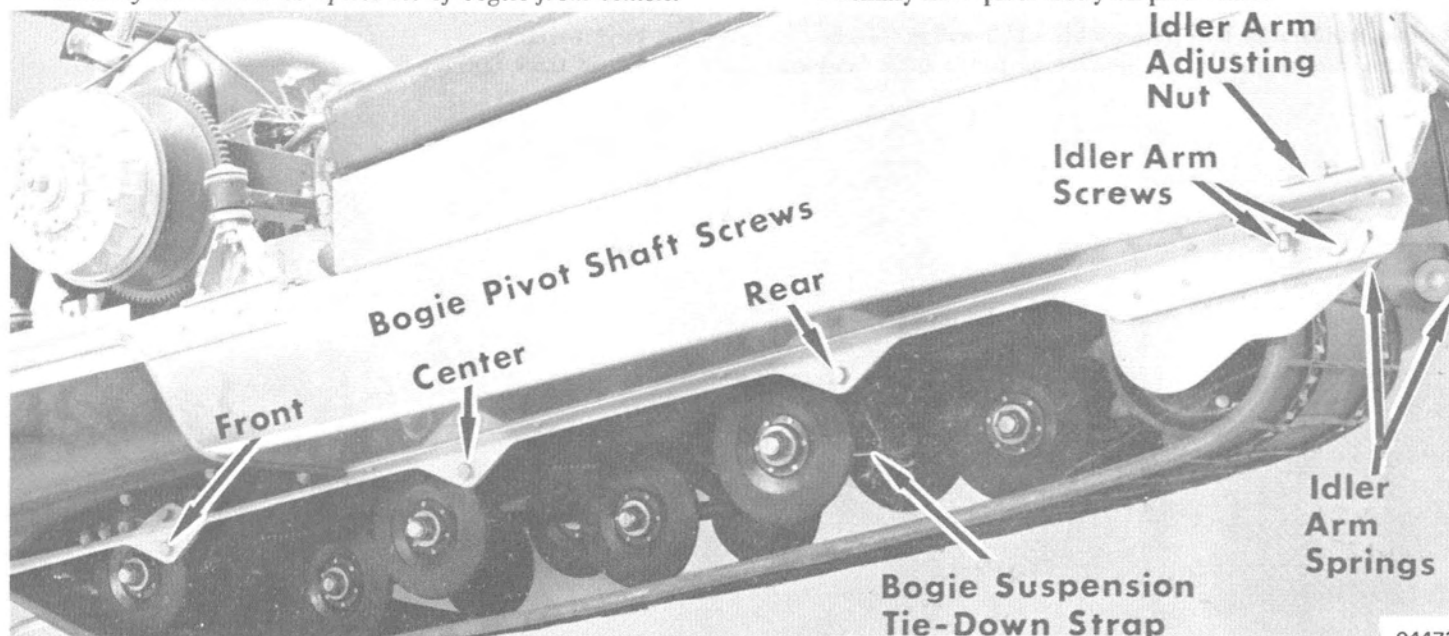

Figure 1. Bogie Wheel Pivot Shaft Screw Location
2. Release track tension by loosening idler arm retaining screws and turning idler arm adjusting nut counterclockwise. (Figure 1)
5. Remove bogie pivot shaft screws from one side of vehicle. (Figure 1)
1. Install front set of bogies first (if removed). Place bogie set on track and secure pivot shaft to chassis with screw, making sure that pivot screw plate is between chassis and pivot shaft. (Figure 1)